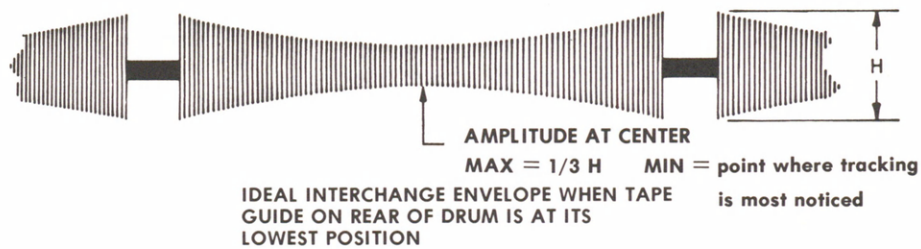

Figure 6-9 . Ideal Interchange RF Envelope Adjustment
3. Adjustment of entrance and exit guide pin angles to obtain an RF envelope as shown in Figure 6-9 (adjustments 1 and 2).
4. When the RF envelope (Figure 6-9) is obtained, the tape guide at the rear of the drum can be adjusted. Set the tracking control to peak the RF envelope at its leading and trailing edges; then, rotate the eccentric mounted rear guide with a screwdriver until the amplitude at the center of the envelope is at a peak. Reset the tracking control until the RF envelope amplitude is at or near minimum. The amplitude at the center of the envelope should be equal to that at the ends. If not, readjust rear drum guide for that result.
2. Amplitude fluctuation of the RF envelope at or near its center. If there is too much downward bias of the tape on the guide at the rear of the drum the tape will occasionally buckle on the guide. If there is sufficient downward bias of the tape on this guide, the tape will occasionally lift off of the rear guide. There are two ways to determine which of these conditions is causing the problem. The first, simply observe the lower edge of the tape as it passes the rear guide and watch for buckling or occasional departure of the tape from the guide. Second, rotate the eccentric mounted rear drum guide to its lowest position; then, adjust the tracking control to peak the leading and trailing edges of the RF envelope. If there is cross tracking in the middle of the RF envelope, it is an indication that the down bias is too high. Conversely, if the dip in the middle of the RF is less than that shown in Figure 6-9, the down bias is insufficient. Down bias is increased by tightening adjustments 1 and 2 and is decreased by loosening adjustments 1 and 2.